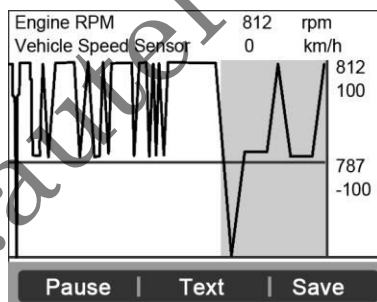

Figure 6.12
- If the **“Graphics”** on the bottom appears when a PID is highlighted, graphic information is available. Select **Graphics** to view graph. (Figure 6.12). PID name, current value, maximum and minimum values are displayed on the screen.